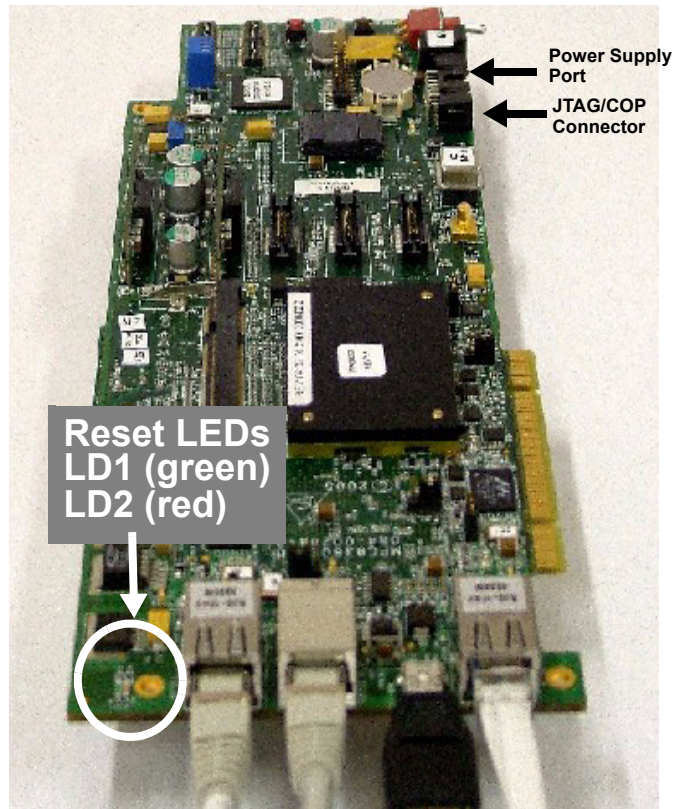

Figure 2-2. Boot-Up sequence: LD1 and LD2 (turn on, then off)
4. Verify that LD1 and LD2 turn on and turn off (see Figure 2-2 for location). They should be on for only a few moments. This indicates that the board has successfully completed the boot-up sequence.
12. Verify that LD1 and LD2 turn on and then turn off (see Figure 2-2 for location). They should be on for only a few moments. This indicates that the board has successfully undergone the boot-up sequence.
4. Verify that LD1 and LD2 turn on and then turn off (see Figure 2-2 for location). They should be on for only a few moments. This indicates that the board has successfully undergone the boot-up sequence.